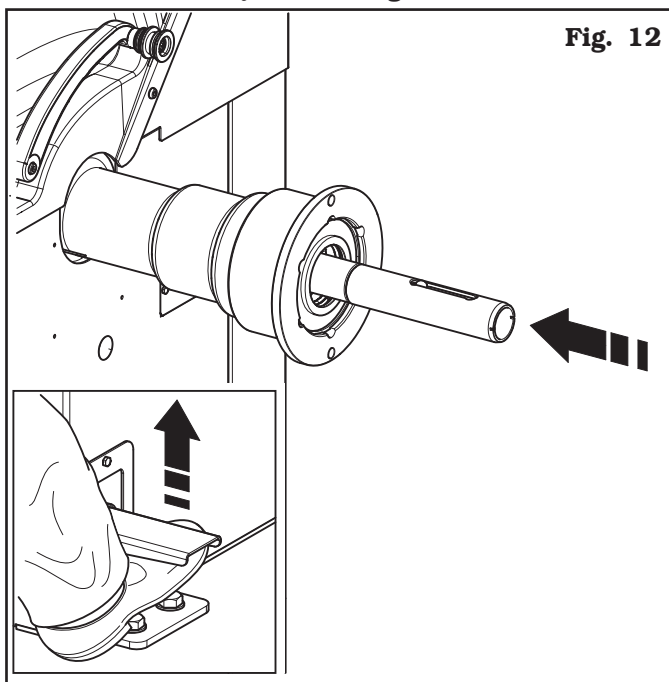

Fig. 12
4. Close the pneumatic mandrel by means of the pedal to access the key socket (**Fig. 12**).
- Close the pneumatic mandrel by means of the pedal to access the key socket (**Fig. 12**).